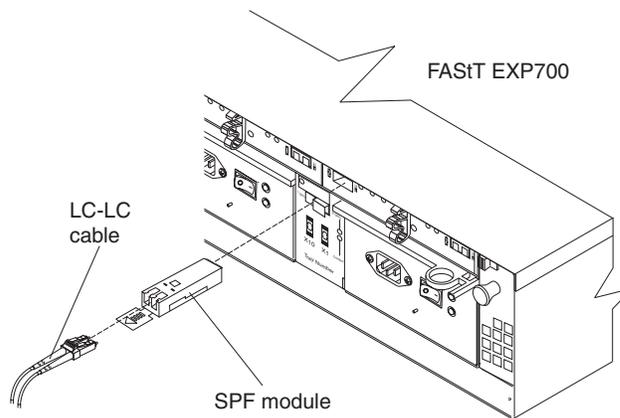

Figure 33. Installing an SFP module and connecting an LC-LC cable to the FASTt EXP700
3. Install an SFP module in the SFP port on the back of the FASTt EXP700; then, connect the other end of the LC-LC cable into the SFP module, as shown Figure 33.